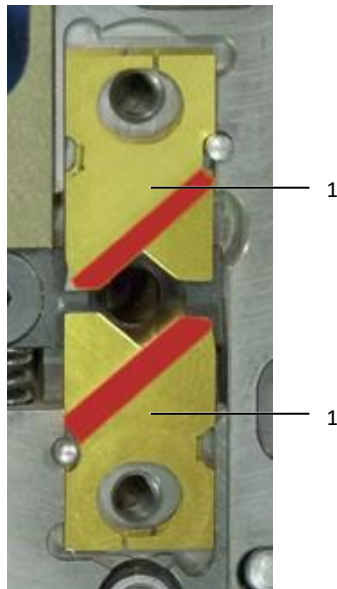

Fig. 31: Inserting blades
- Place each blade-pair together so that the angled edges (marked red in fig. 31) point outwards.